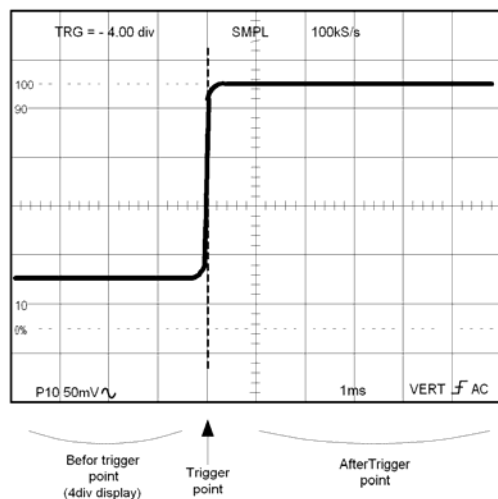

Figure 5-18
- 3) For example, in the case of 4.0DIV setting, the signal before the rising edge of the waveform (the triggered point) can be observed as shown in Figure 5-18 below.